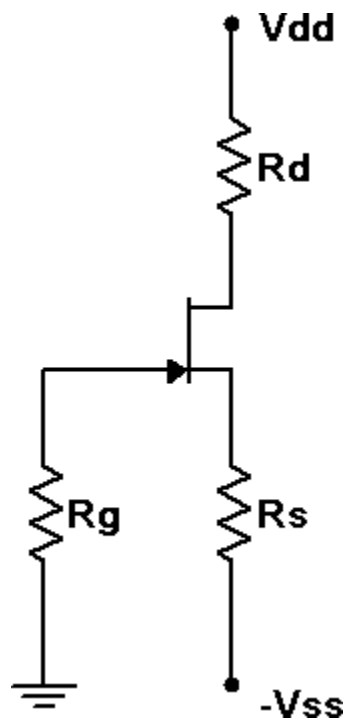

Figure 3
6. Consider the circuit of Figure 3 using $V_{DD} = 15$ volts, $V_{SS} = -3$ volts, $R_d = R_s = 4.7\ k\Omega$ and $R_g = 330\ k\Omega$. A reasonable approximation for V_{GS} in this circuit is -2 volts DC. Based on this, calculate and record the expected voltages for JFET 1 in Table 4. Also record the expected drain current in Table 5.
7. Build the circuit of Figure 3 using $V_{DD} = 15$ volts, $V_{SS} = -3$ volts, $R_d = R_s = 4.7\ k\Omega$ and $R_g = 330\ k\Omega$. Measure and record the voltages for JFET 1 in Table 4. Based on V_D , compute and record the experimental drain current in Table 4. Also find and record the drain current deviation.
3. In general, identify two ways of decreasing the drain voltage in the circuit of Figure 3.